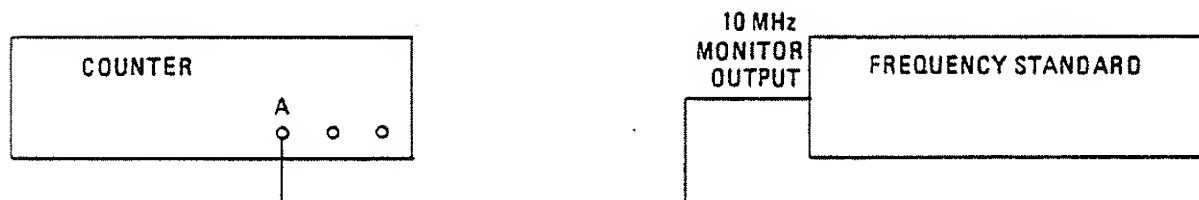

Fig 6.8 Connections for Internal Frequency Standard Adjustment
- (1) Turn the counter on. Select function FREQ A. Verify that 00000000 is displayed. If Option 04E is installed, press the RESOLUTION \uparrow key until 000000000 is displayed.
- (2) Connect the test equipment as shown in Fig 6.8.